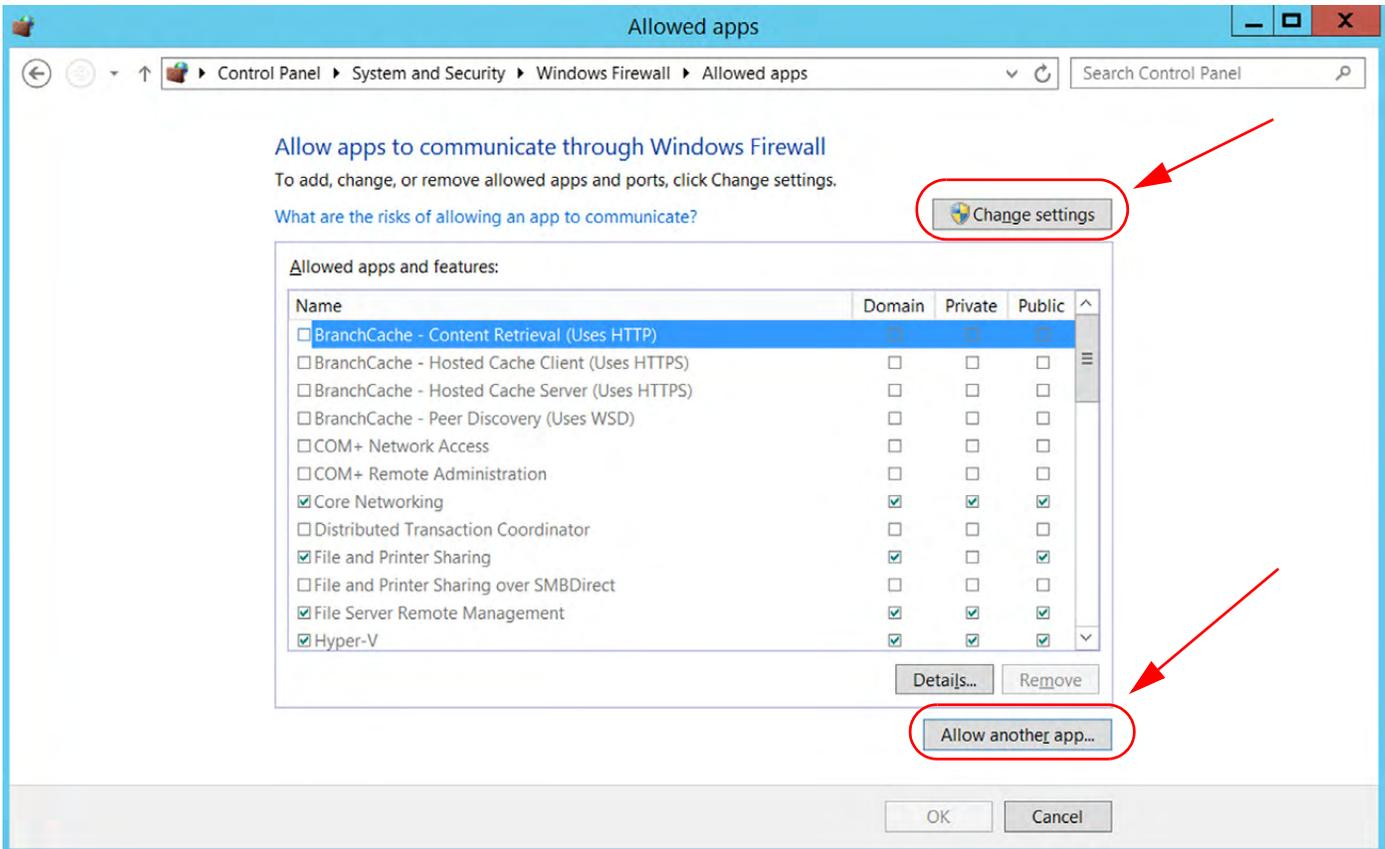

Figure 3.4: Windows Server 2012: Change Settings -> Allowed Another app
- From the Windows Firewall screen -> Allow apps to communicate through Windows Firewall, select "Change settings", then select "Allow another program". See Figure 3.4.